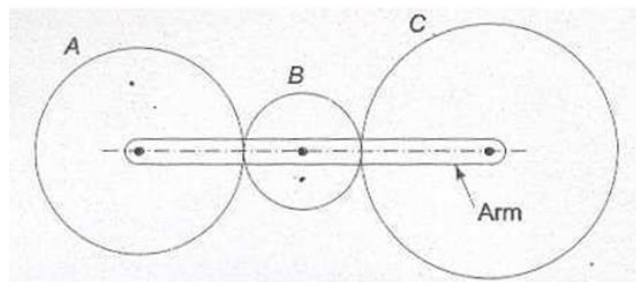

Figure-2
10. In an epicyclic gear train, as shown in Figure-2, the number of teeth on wheels A, B, and C are 50, 25, and 52 respectively. If the arm rotates at 420 rpm clock wise, find (a) speed of wheel C when A is fixed, and (b) speed of wheel A when C is fixed. [12M]